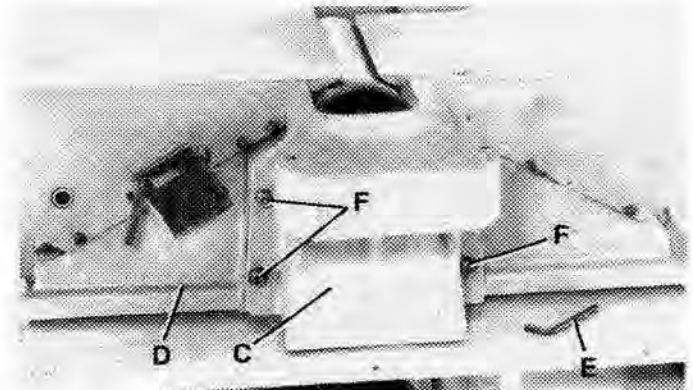

FIGURE 8
2. Using the supplied hex. key (E), fasten mounting bracket (C) Fig. 8, to the jointer with four M8 x 55mm long hex socket head screws, lock washers, and flat washers (F), three of which are shown.